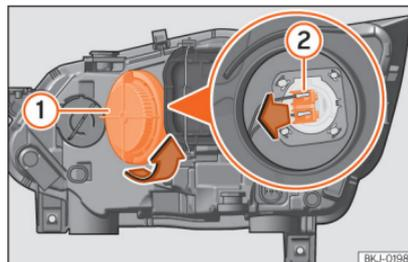

Fig. 54 In the engine compartment: main beam headlight bulb.
- Turn the cover **1** anti-clockwise and take it out **»» Fig. 54.**
- Remove the bulb connector ② by pulling it outwards.
- Fit the bulb connector ②.
- Fit cover ①, turning it towards the right.